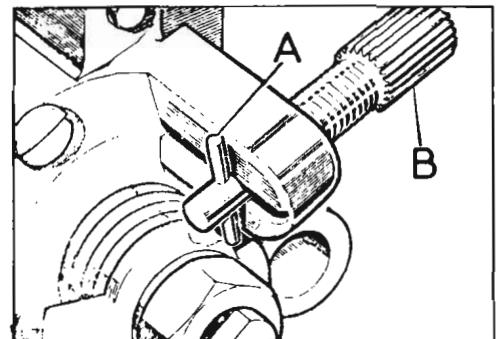

Fig. 11
For starting at temperatures down to  $-18^{\circ}\text{C}$  ( $0^{\circ}\text{F}$ ) push and turn the spring-loaded choke adjustment screw (B) Fig. 11 so that the peg (A) Fig. 11 is at right-angles to the slot. Leave in this position.